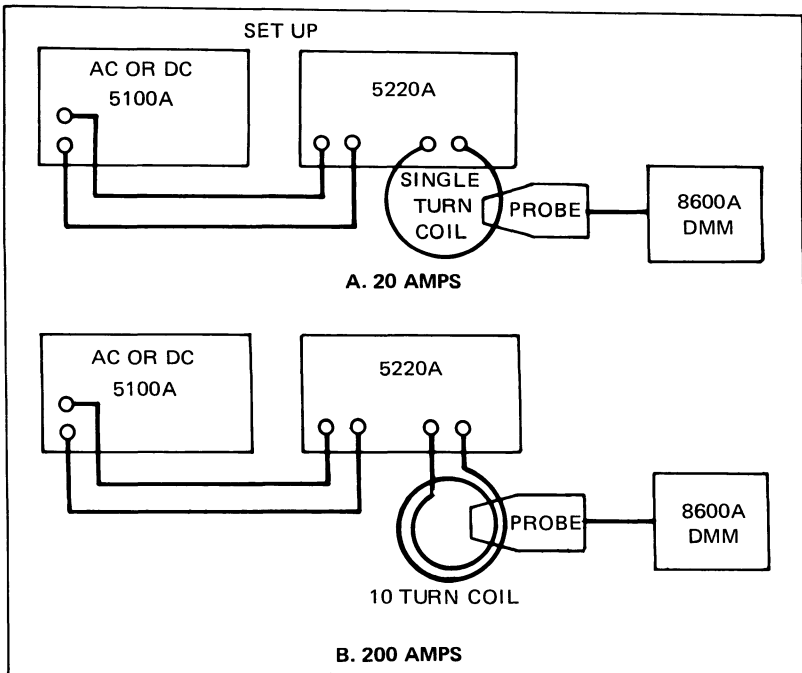

Figure 4-3. Calibration Set Ups
4-11. The four adjustments are (1) ac response, (2) coarse dc zero, (3) 20 amp range calibration, and (4) 200 amp range calibration. Instructions for each adjustment ends with a limit that represents the specification listed in Table 1-1 of this manual for that measurement. It is suggested that all four measurements be checked for need of re-adjustment before removing one or both decals. These limits can also be used as an acceptance test on receiving the probe. See Figure 4-3 for calibration set ups.
- c. Clamp the Y8100 around the single turn coil (see Figure 4-3).
- d. Clamp the Y8100 around the one turn coil, as shown in Figure 4-3-A.
- d. Clamp the Y8100 around the ten-turn coil (see Figure 4-3-B).
3. Clamp the Y8100 around the ten-turn coil (see Figure 4-3-B).